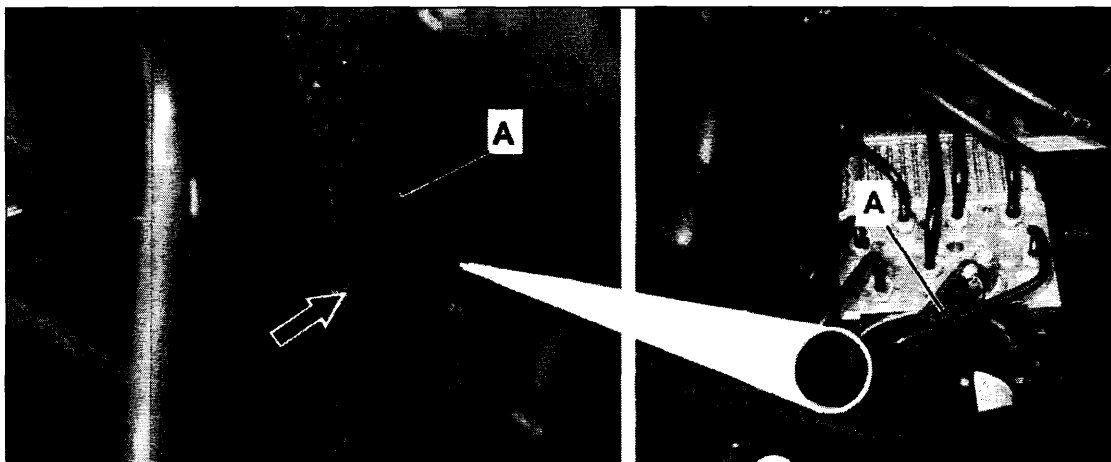
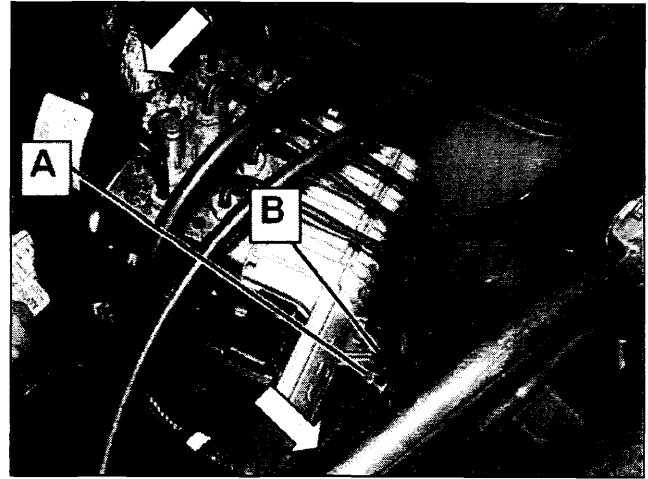

Figure 5
Figure 6 (Shown with SBC hydraulic unit installed)
8. Replace suction hose (A, Figure 5):
- Open the suction hose mounting clip (arrow) and remove suction hose (A) from bracket.
- Remove hose clamp (A, Figure 6) then remove suction hose (arrow) from suction line (B) using a plastic wedge (Example: Special Tool: W110 589 03 59 00).
- Do not use sharp-edged tools (e.g., screwdriver) to remove suction hose (arrows, Figure 6) from suction line (B), as this may cause damage to the SBC brake system.
- When removing suction hose (arrow), do not bend suction line (B).
- To prevent brake fluid from running out and to prevent contamination in the brake system, the suction hose (arrows, Figure 6) and line (B) are to be plugged using suitable plugs from the stop plug kit (Special Tool: W129 589 00 91 00).
- Discard old suction hose (arrow) and clamp (A) after removal.